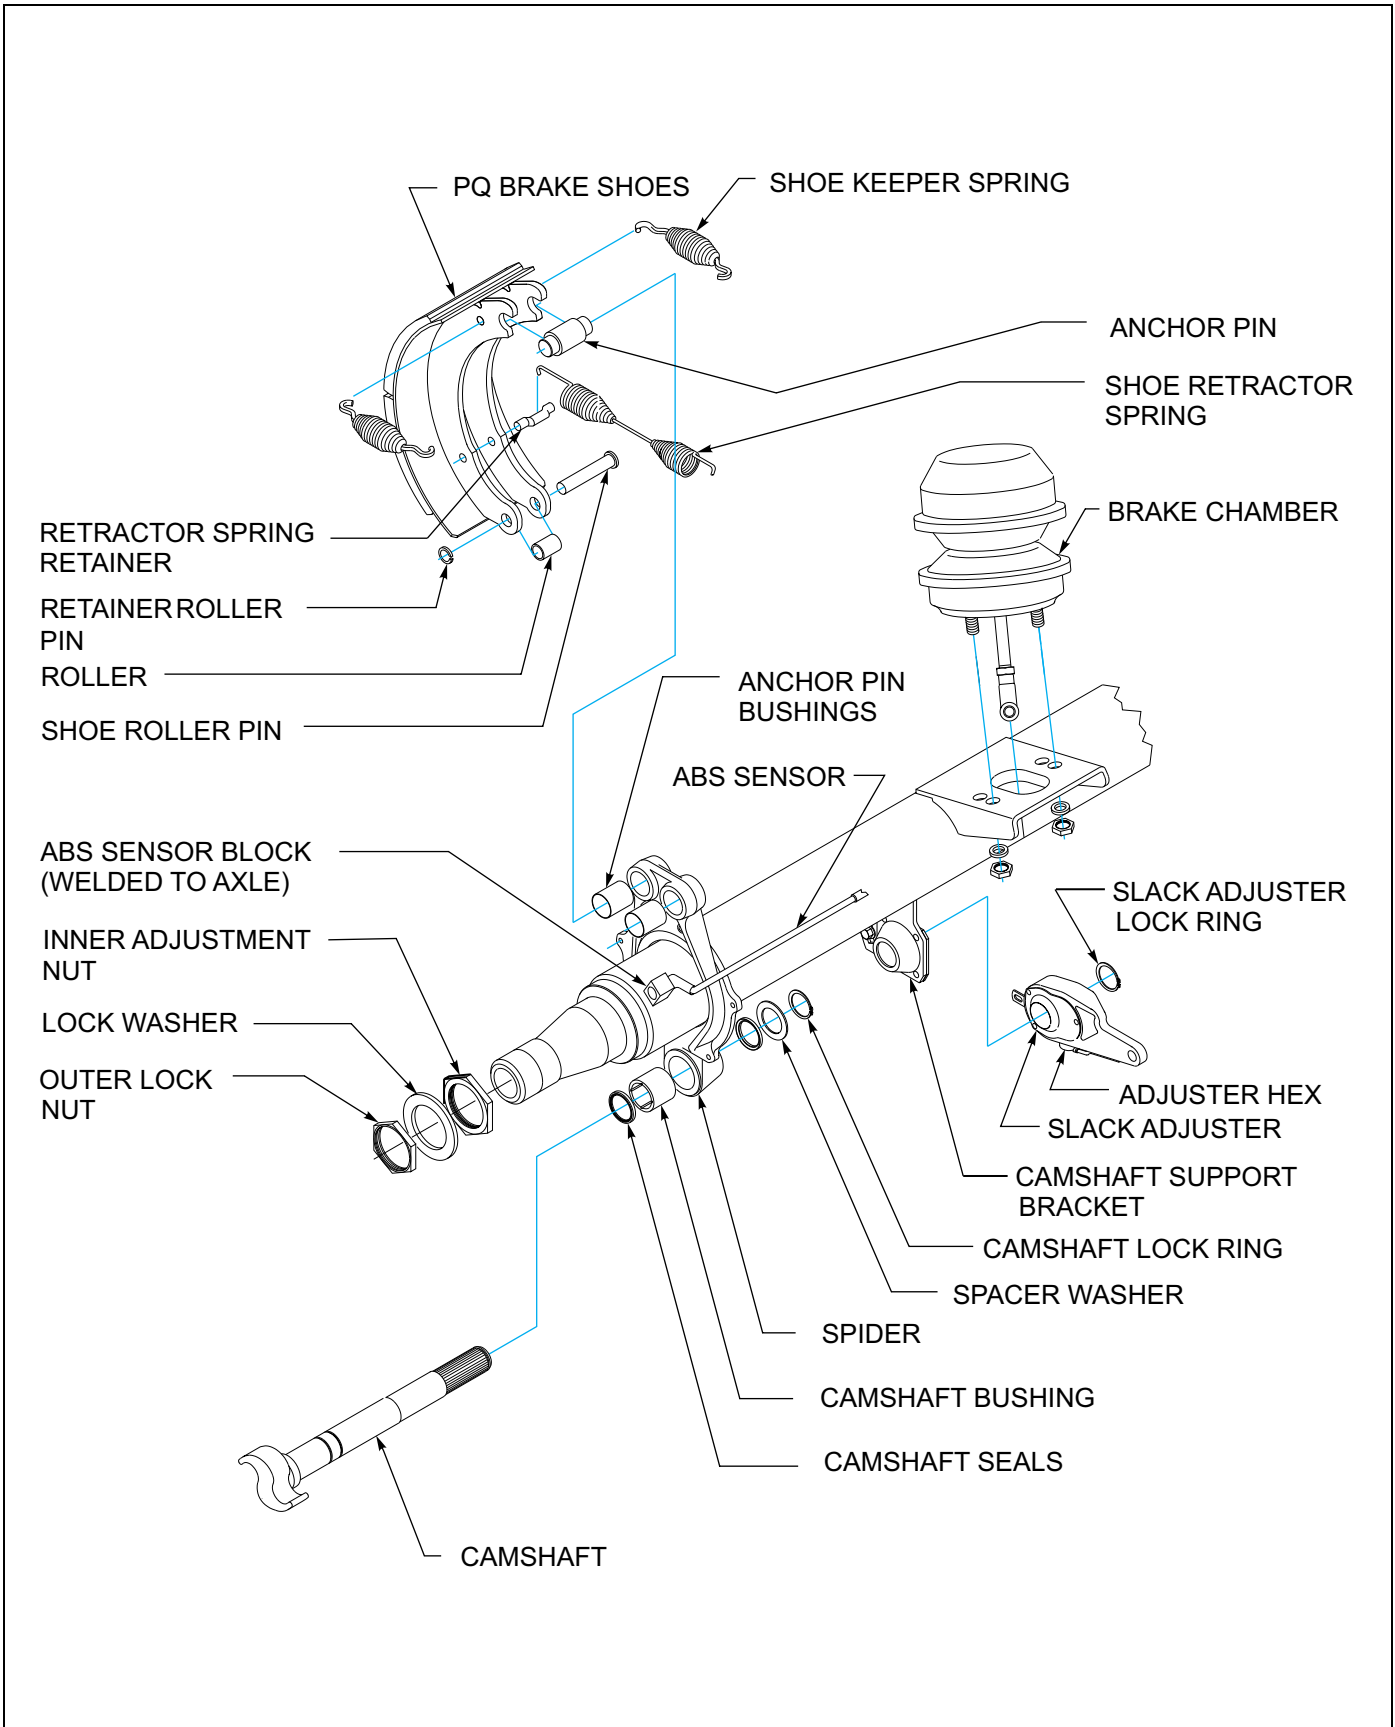

Figure 4-11: Axle and Brake Assembly
1. Release brakes and back off slack adjuster (See **Figure 4-11.**)
1. Install new anchor pin bushings, camshaft bushing and camshaft seals into the spider (See **Figure 4-11.**)